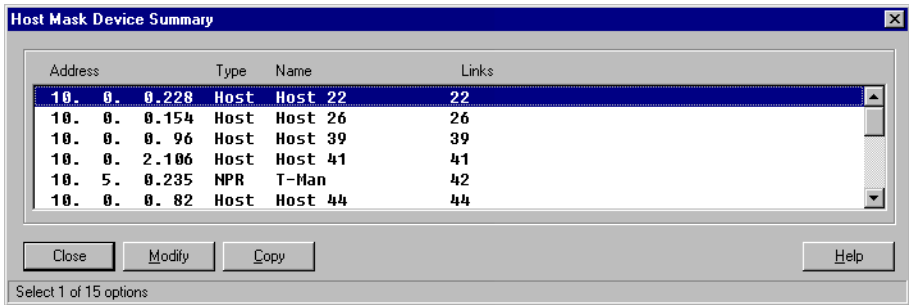

Figure 3-15. Host Mask Device Summary
To start the editor, select **Host Masks** from the I/NET Configuration Profiles editor. The Host Mask Device Summary, shown in Figure 3-15, displays. This summary lists the TCP/IP addresses and names of the remote hosts that are available within your TAC I/NET Seven system. If this list is empty, you may need to define one or more Reference Hosts. (Refer to Step 3 on page 3-19) By default, your host workstation will not receive messages from any remote hosts.
1. From the Host Masks Device Summary (see Figure 3-15), select the host configuration you wish to copy.